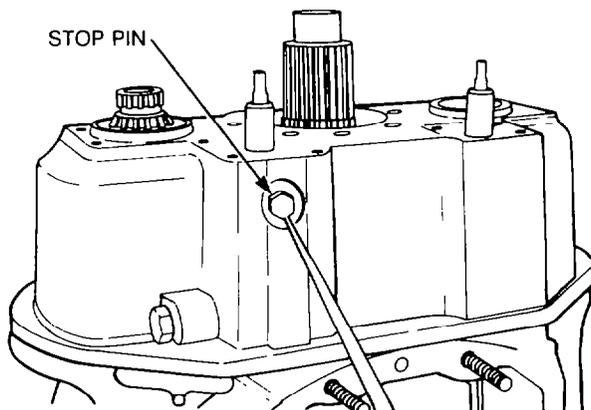

Figure 185 — Installing Selector Shaft Stop Pin
- ae. Position a new gasket on the rear housing-to-front housing mounting surface, then with suitable overhead lifting equipment position the rear housing on the front housing and install the selector shaft stop pin (see Fig. 185). Install the housing retaining bolts and torque the bolts to 46-56 Nm (34-41 lb.ft).